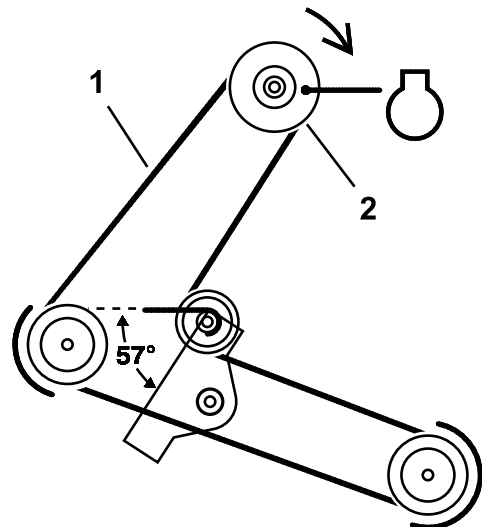

Figure 33
5. Remove the mower belt from the electric clutch pulley (Figure 33).
- Install the mower belt onto the electric clutch pulley (Figure 33).